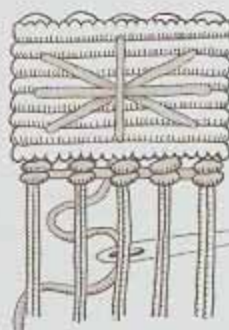

Fig. 10
9. Flip earring to back and find the center point in the area between rows 7 and 8. Sew through to the front (see Figure 10).
10. Flip earring to the front and sew through center point in the area between rows 1 and 2. Pull through to back (see Figure 10).